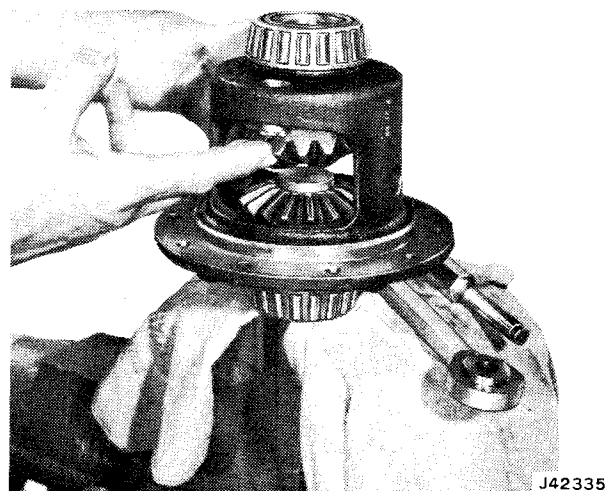

Fig. 2F-70 Clutch Pack and Side Gear Installation
(7) Install remaining clutch pack and side gear. Be sure clutch pack stays assembled on side gear splines and that retainer clips are completely seated in pockets of case (fig. 2F-70).
(8) Position gear rotating tool in upper side gear.